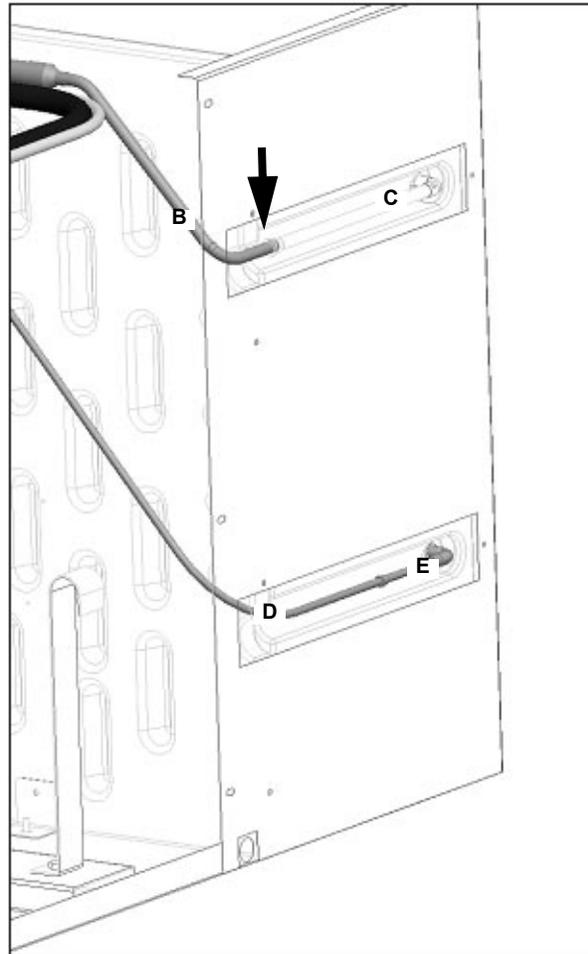

FIGURE 25. Rear of Unit
24. At the rear of the unit, remove the suction line (B) from the left evaporator. Do NOT remove the line extension (C) (FIGURE 25).